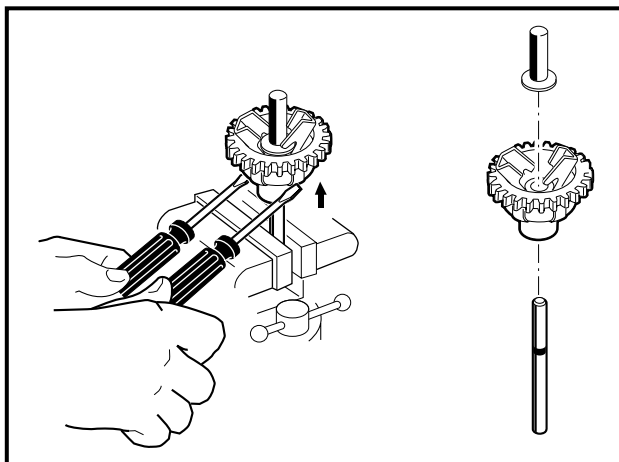

Figure 16a-50 Pry Gear from Shaft
2. Pull the cover (76) and thrust plate (75) from the differential gear carrier case (**Figure 16a-48, Page 16a-23**).
3. Remove the differential gear (79) from the differential gear carrier case.